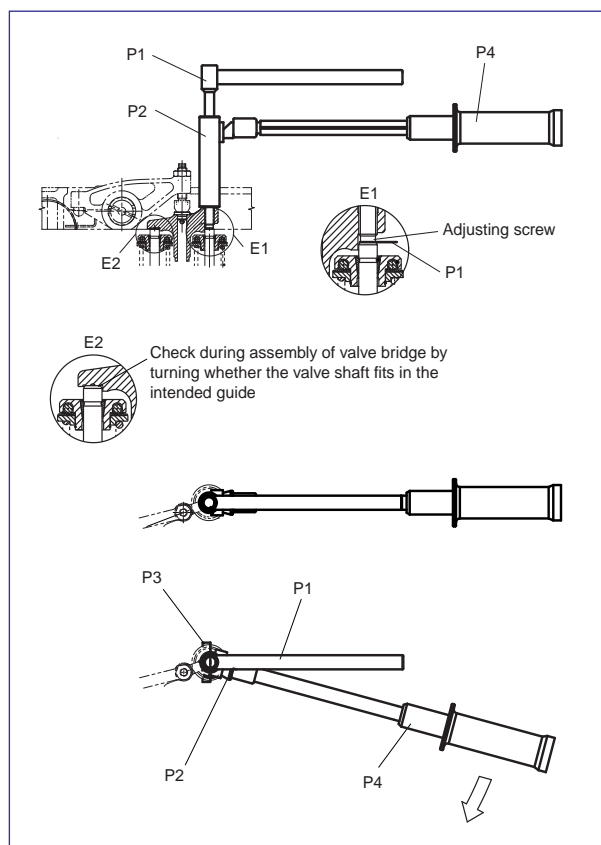

Fig. 1.
4. Insert the feeler gauge (P3 = 0.01 mm). See figure 1.